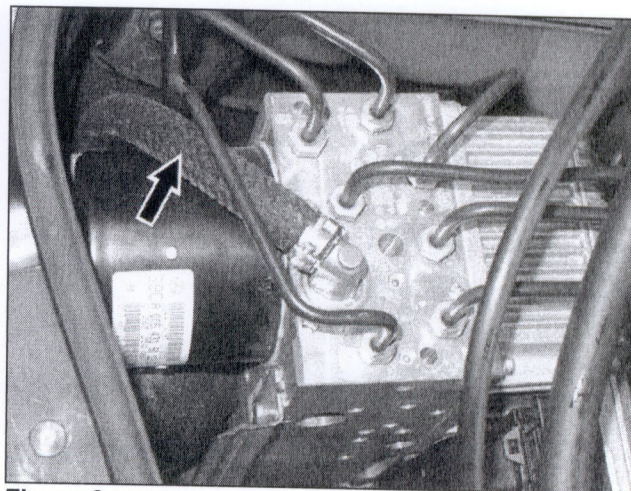

Figure 6
- If previous version (braided) hose (arrow, Figure 6) is installed, proceed to step 9 to replace the suction hose.